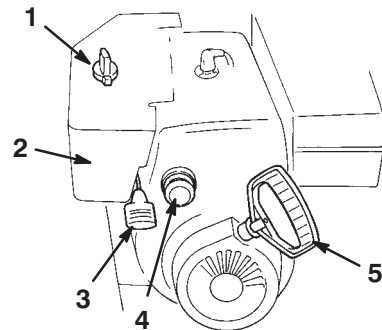

Figure 14
- **Choke** (Fig. 14)—Move the choke to the  (*Full*) position to start a cold engine. As engine warms up, gradually move the choke to the *Off* position.
- **Ignition Switch** (Fig. 14)—Insert the key before starting the engine. To stop the engine, remove the key.
- **Throttle** (Fig. 14)—Move the throttle upward to increase the engine speed; move it downward to decrease the engine speed. Move the throttle to the *Stop* position to stop the engine.
- **Primer** (Fig. 14)—Press the primer to pump a small amount of gasoline into the engine for improved cold-weather starting.
- **Recoil Starter** (Fig. 14)—The recoil starter is on the back side of the engine. Pull the recoil starter to start the engine.
2. Remove the key from the ignition switch (Fig. 14).
3. Pull the choke knob off (Fig. 14).
2. Move the throttle to the *Fast* position (Fig. 14).
5. Rotate the choke (Fig. 14) to the *On* position.
6. Insert the ignition key (Fig. 14).
7. Cover the hole in the center of the primer (Fig. 14) with your thumb and slowly push in the primer three times, pausing a moment between pushes.
8. Grasp the recoil starter handle (Fig. 14) and pull it out slowly until positive engagement results; then pull the handle vigorously to start the engine.
10. After the engine starts, immediately rotate the choke (Fig. 14) to the 3/4 position. As the engine warms up, rotate the choke to the 1/2 position. When the engine warms up sufficiently, rotate the choke to the *Off* position.